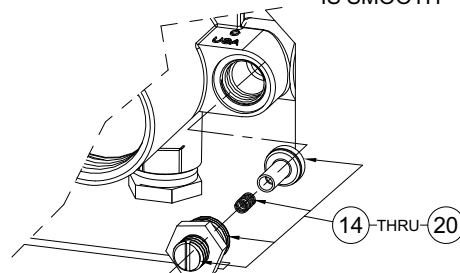

FIGURE 3
6. Slowly open **check adjusting screws 16** relieving line water pressure. Towel may be required to soak up water remaining in lines. Unscrew **check caps 14** counter clockwise and remove **check stop assembly items 14-20**, this is similar on both Powers and SV16 Controls valves. Carefully remove stops and internal components (components may fall behind wall or panel). See **Figure 3**.